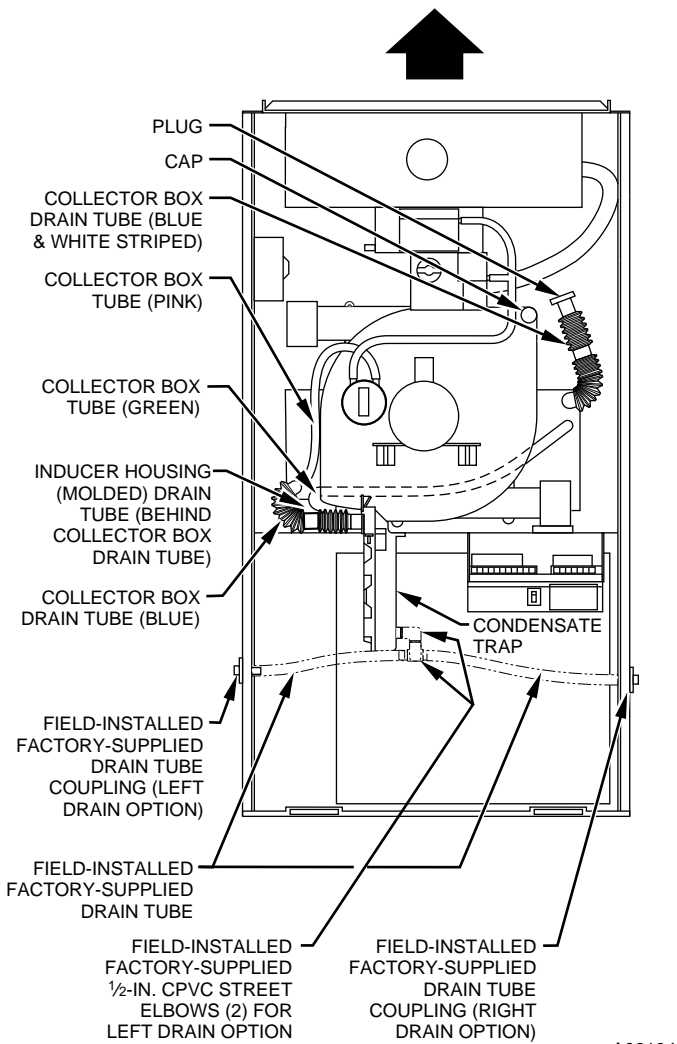

Fig. 5—Factory-Shipped Upflow Tube Configuration (Shown With Blower Access Panel Removed)
Some assembly and modifications are required for furnaces installed in any of the 4 applications shown in Fig. 1. All drain and pressure tubes are connected as shown in Fig. 5. See appropriate application instructions for these procedures.
NOTE: See Fig. 5 or tube routing label on main furnace door to confirm location of these tubes.
- Cement 2 factory-supplied 1/2-in. street CPVC elbows to the rigid drain tube connection on the condensate trap. (See Fig. 5.) These elbows must be cemented together and cemented to condensate trap drain connection.
NOTE: See Fig. 5 or 6 or tube routing label on main furnace door to check for proper connections.